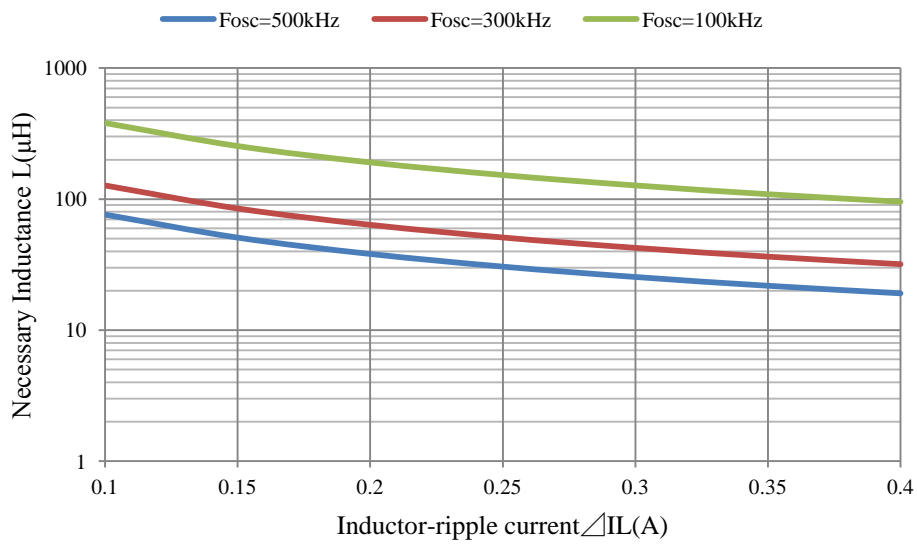

fig.16
- $P_{cont} = 44\text{mW}$  (It was referred from fig.16.)
- $P_{cont} = 22\text{mW}$  (It was referred from fig.16.)
- $P_{cont} = 33\text{mW}$  (It was referred from fig.16.)